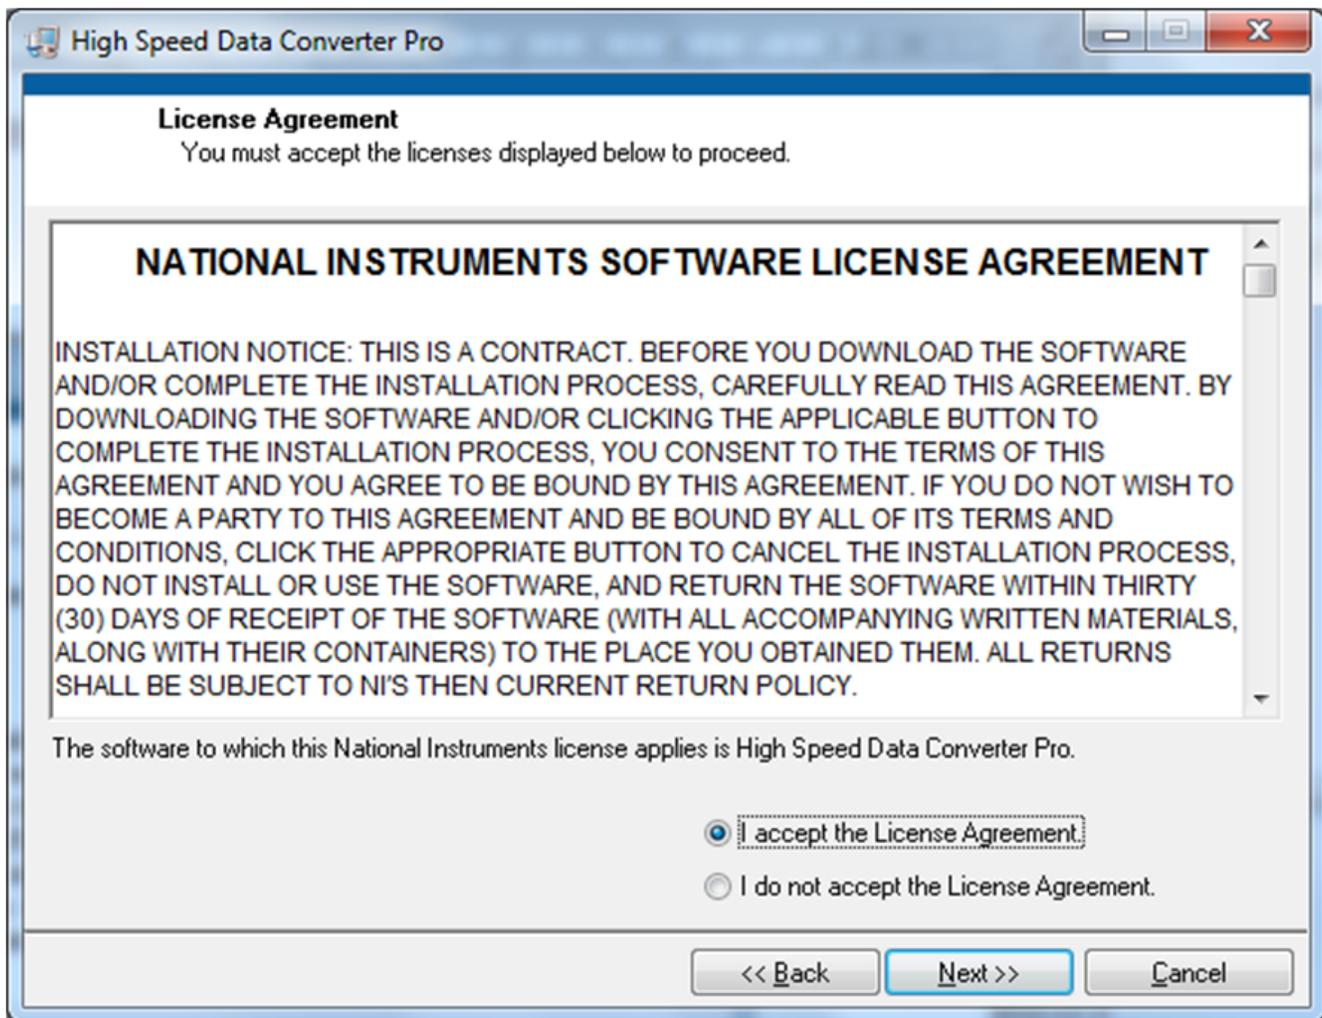

Figure 45. HSDCPro Install (NI License Agreement)
- Read the License Agreement from National Instruments and select *I accept the License Agreement* and press the *Next* button as shown in Figure 45.